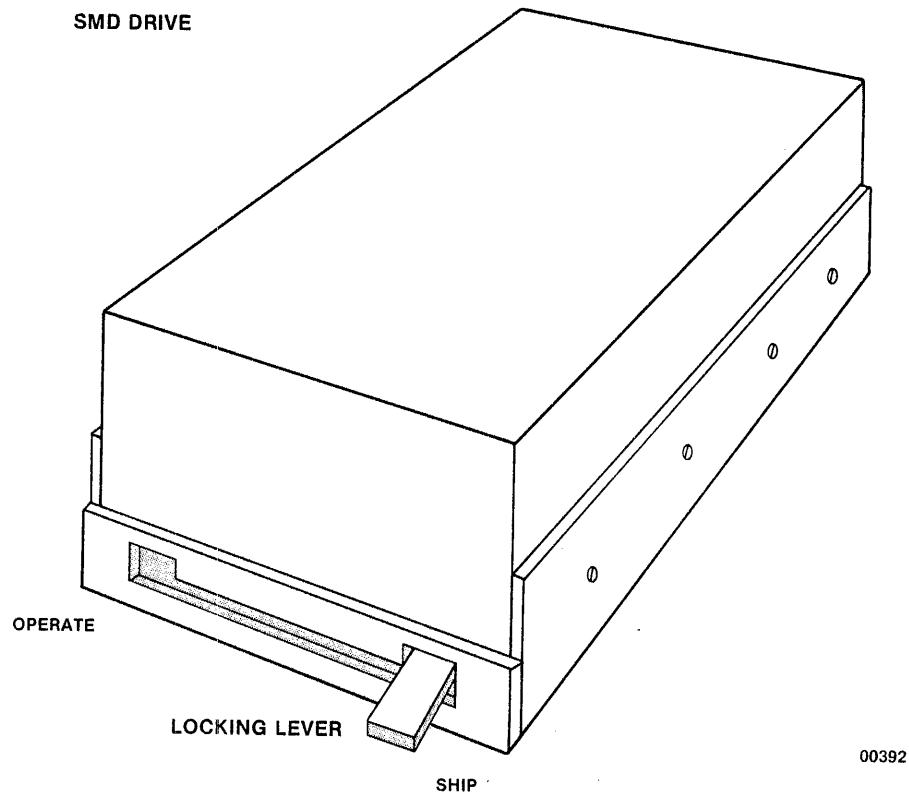

Figure 3-14 SMD Mounting Bracket with Head Locking Actuators
3.5.5. Head Lock Actuator: The SMD mounting bracket has a head locking and unlocking actuator lever located at the front of the SMD (Figure 3-14).